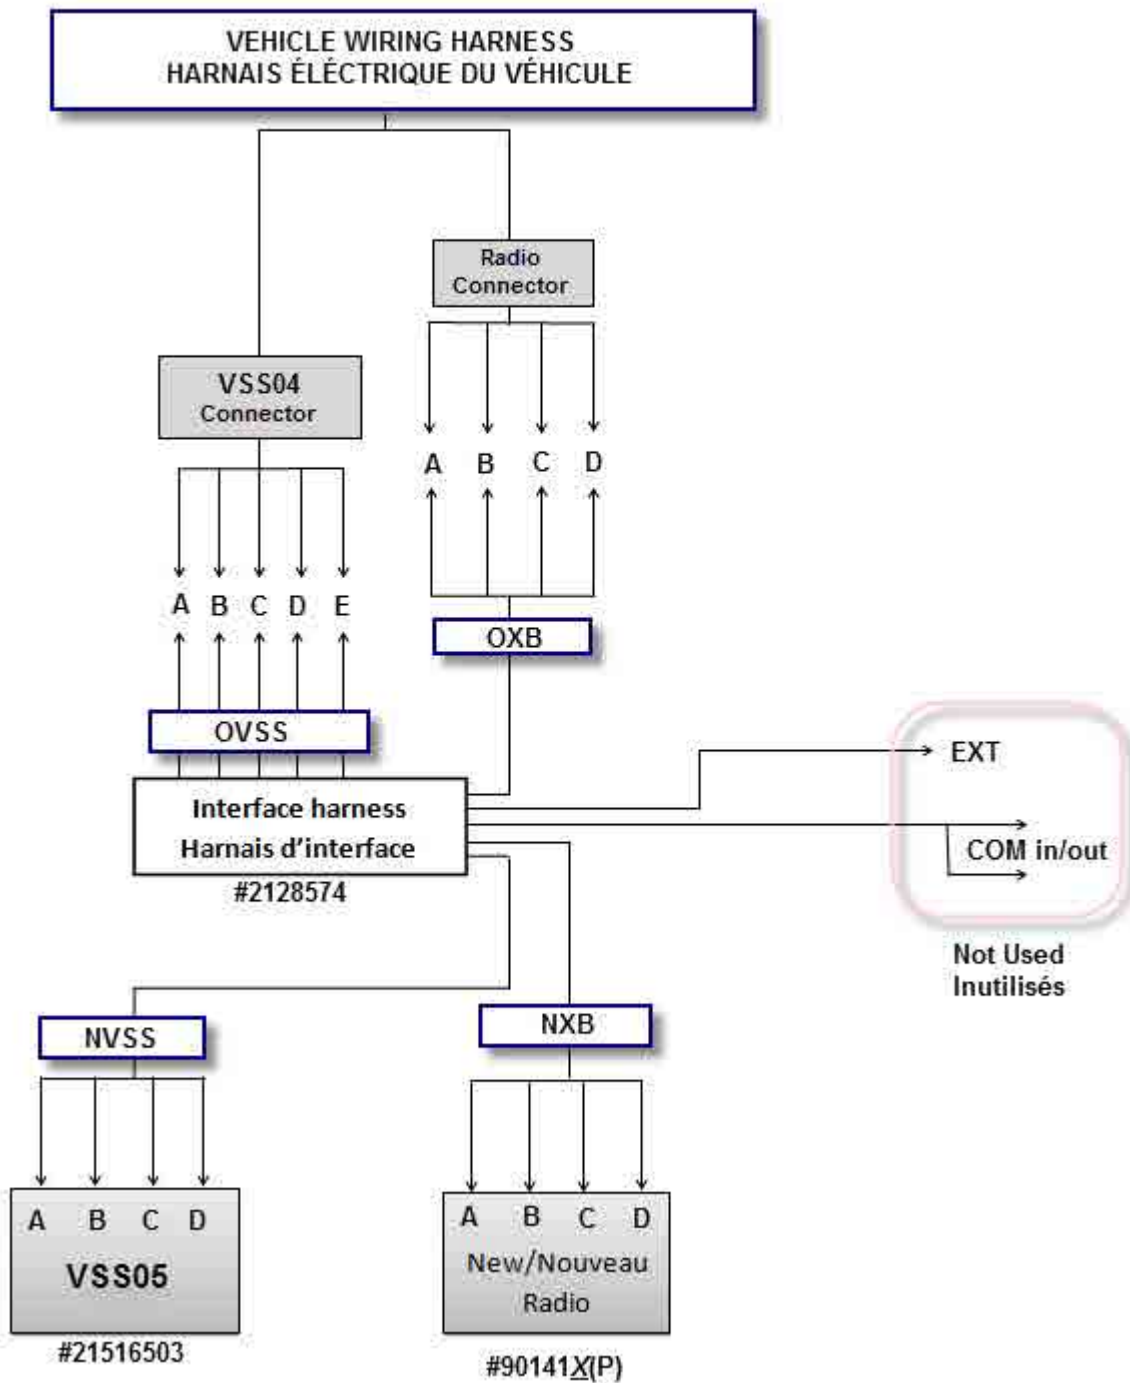

Fig.10 Interface harness, VSS05 and corresponding radio installation diagram.
10. Position the interface harness into the dashboard and connect the harness following Fig.10 and instructions below.